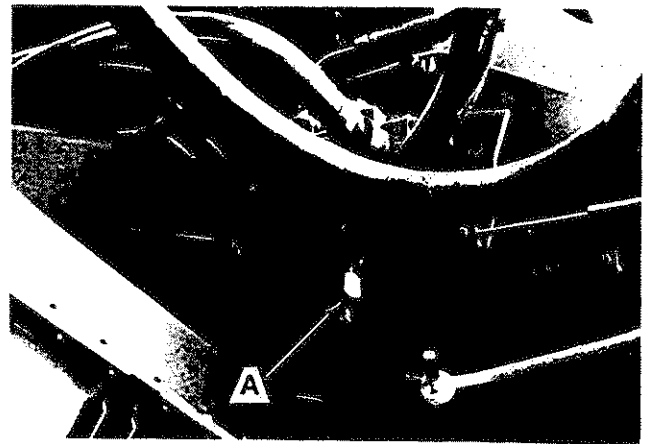

Fig. 56
2. Remove the 1/4" JIC cap from gauge port (A), see Fig. 56.
3. Connect a 5,000 psi gauge onto port (A).